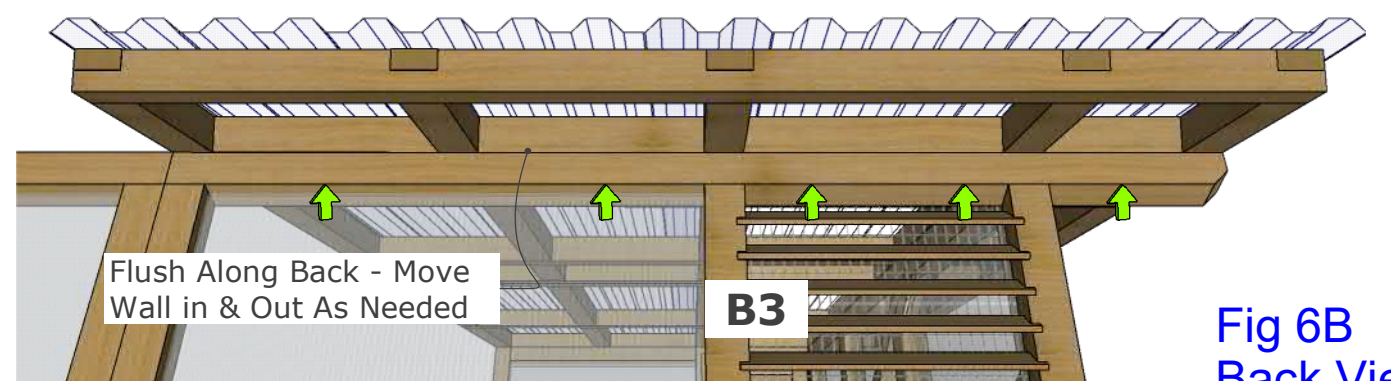

Fig 6B
6.2 Square Back to Left Side: By moving the roof section and pulling in or out back walls and left side wall, make the back edges and the side edges of walls flush with the roof frame as indicated in illustrations. Place 3" T25 Screws in back B3 panel and left L4 and L1 side panels as indicated by green arrows in FIG 6B.